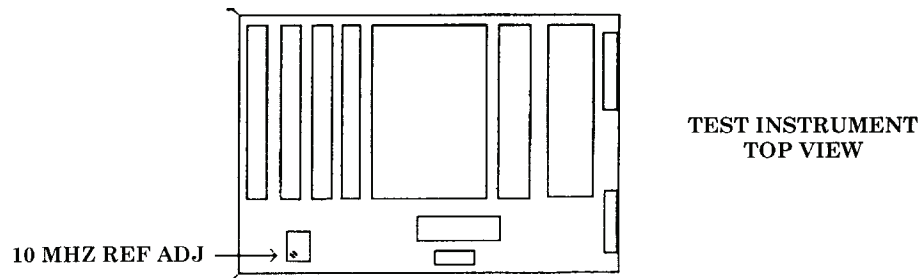

Figure 2. 10 MHz ref adj location.
e. Remove screw covering the 10 MHz REF ADJ (fig. 2)
f. Adjust 10 MHz REF ADJ (fig. 2) for a minimum frequency difference meter indication.
h. Replace screw on 10 MHz REF ADJ (fig. 2).